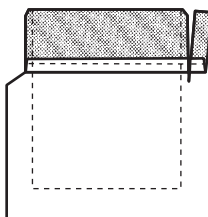

Fig. 7-2
4. Trim the corners and seam allowance on just the pocket facing to about $\frac{1}{4}$ inch (6 mm). (Fig. 7-2) Turn the pocket facing right side out and press.